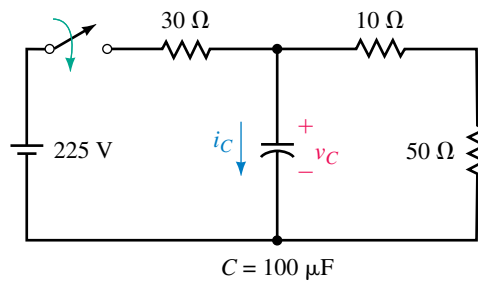

FIGURE 11–57
30. For Figure 11–57, the switch is closed at $t = 0$. Given $V_0 = 0$ V.